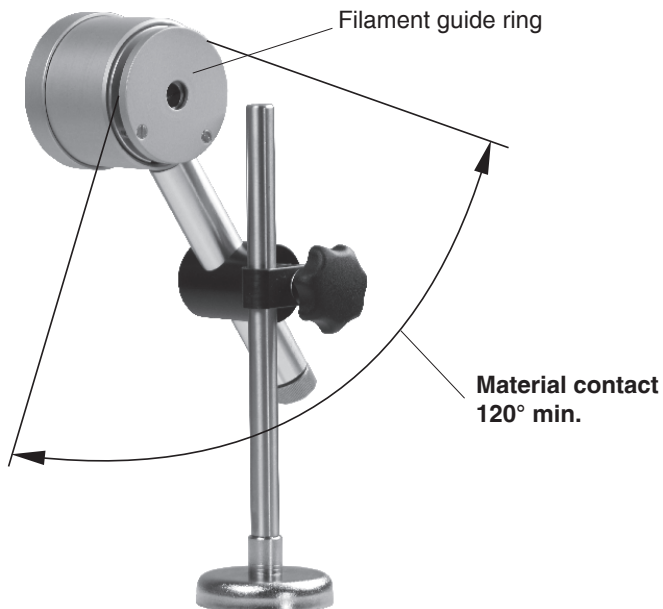

fig. 3.5.2d
2. Adjust the electronic yarn consumption meter in such a way that the angle of material contact with the measuring wheel is 120° minimum (fig. 3.5.2d) to eliminate material slip.